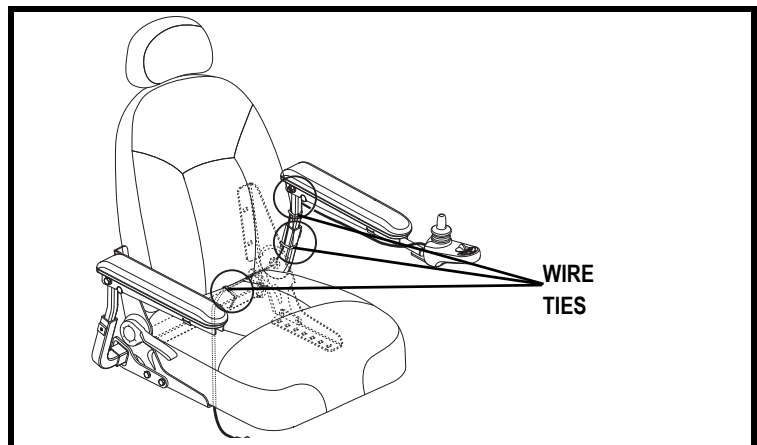

Figure 11. Cable Routing
10. Route the controller connector along the seat frame and secure with wire ties. See figure 11.